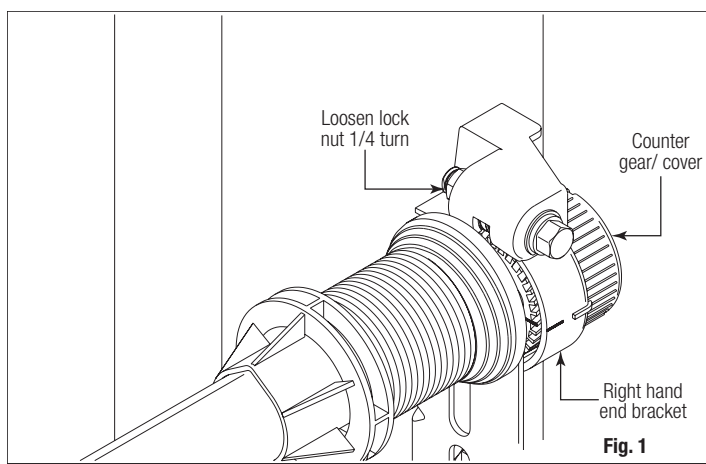
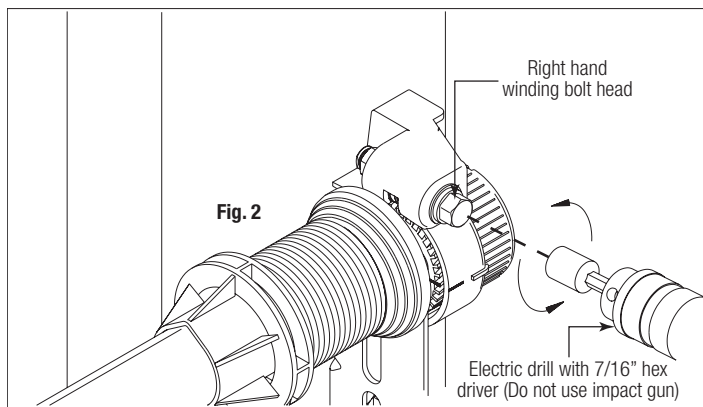

Fig. 1
Fig. 2
**STEP 2:** Insert an approved winding bar into one of the holes in the winding cone. EXERT UPWARD PRESSURE. Using caution, loosen the two (2) set screws in the winding cone. Be prepared to support the full torsion force of the spring(s) when the set screws are loosened (use Fig.1 & Fig. 2).
**STEP 2A:** Insert an approved winding bar into one of the holes in the winding cone. EXERT DOWNWARD PRESSURE. Using caution, loosen the two (2) set screws in the winding cone. Be prepared to support the full torsion force of the spring(s) when the set screws are loosened (use Fig.1 & Fig. 2).
**STEP 3:** Once set screws are loose, slowly and carefully lower the winding bar until it contacts the door. Insert other winding bar into the upper hole. Push up and remove lower bar. Carefully lower upper winding bar 1/4 turn at a time. Repeat the process of alternating winding bars until all tension is relieved. If your door is equipped with two (2) torsion springs, follow the same procedure to relieve tension on the second spring.
**STEP 3A:** Once set screws are loose, slowly and carefully raise the winding bar a 1/4 turn at a time. Insert other winding bar into the lower hole. Push down and remove upper bar. Carefully raise lower winding bar 1/4 turn at a time. Repeat the process of alternating winding bars until all tension is relieved. If your door is equipped with two (2) torsion springs, follow the same procedure to relieve tension on the second spring.
**STEP 1:** For end brackets with a black counter cover: Place a mark on the drive gear tooth and an adjacent mark on the right hand end bracket (Fig. 1). Loosen the lock nut 1/4 turn using a 7/16" wrench and continue with step 2.
**STEP 2:** Starting on the right hand side and using an electric drill (high torque/gear reduced to 1300 rpm preferred) with a 7/16" hex head driver, unwind the right hand winding bolt head counterclockwise (Fig. 2) and count the number of turns the mark on the drive gear passes the adjacent mark on the end bracket. Referencing the chart below, by door height, stop unwinding the spring once the counted turns have reached the listed number of turns. For double springs, repeat the same process on the left hand side.